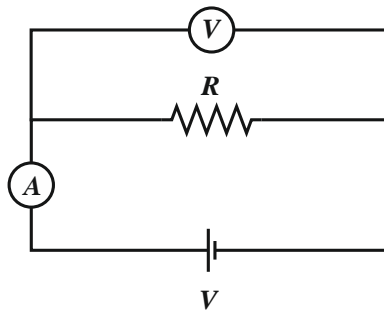

Figure 4.6 Experimental setup for R_1 and R_2
1. Set the circuit up for resistor R_1 given in Fig.4.6. (“A” denotes ammeter)
4. Set the circuit up for resistor R_2 given in Fig.4.6.